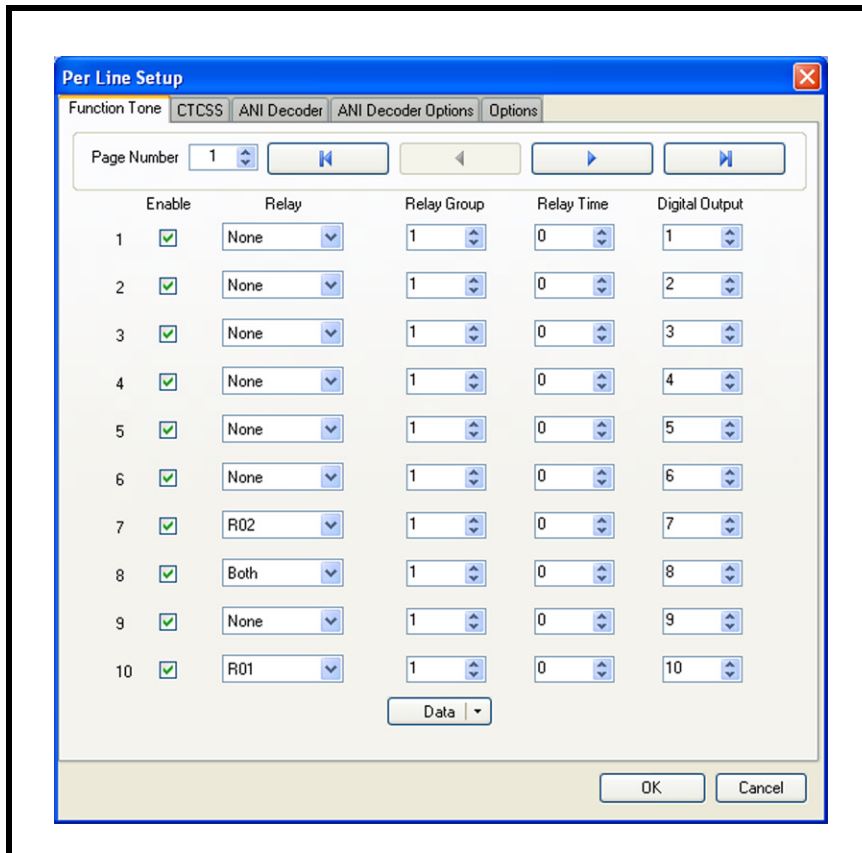

FIGURE 2. Per Line Setup Notebook—Function Tone Page
*The Per Line Setup notebook appears. See Figure 2.*